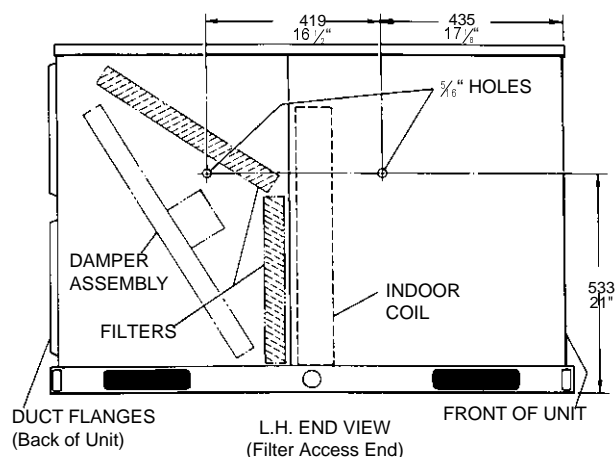

FIG. 10 - HOLE LOCATIONS (PRESS. DROP READING)
1. Drill two 8mm ($\frac{5}{16}$ in.) holes in the side panels as shown in Figure 10.